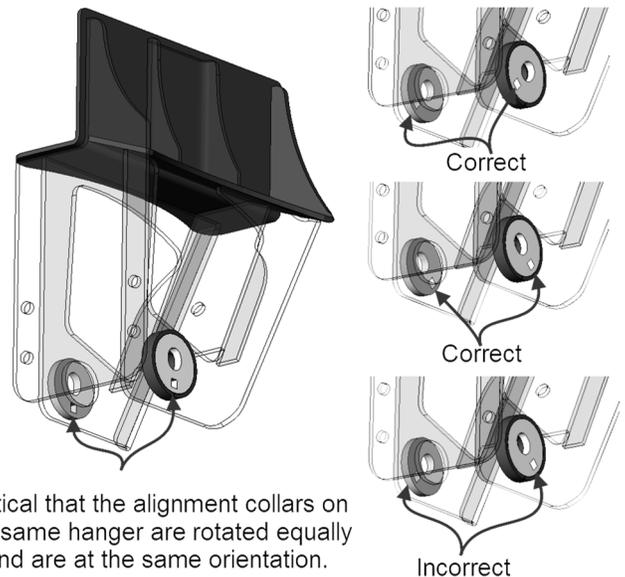

Figure 18
14. Verify that the driver side inboard and outboard eccentric collars are aligned with each other (the adjustment squares are at the same orientation on both the inboard and outboard eccentric collars). (See **Figure 18**)